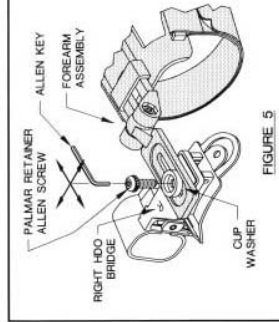
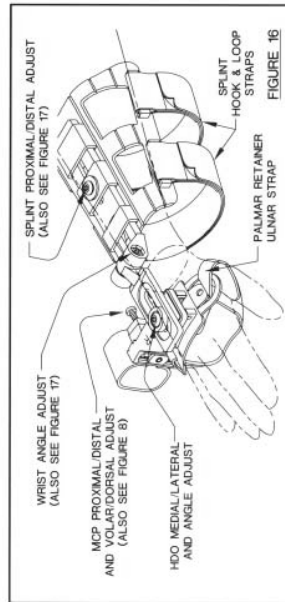

FIGURE 5
FIGURE 16
- 1 Position patient's hand into splint and secure with hook and loop straps see **Figure 16**.
radial styloid and retighten see **Figures 16 & 17**.
- 4 To adjust wrist angle, loosen allen screw at wrist axis, position at desired angle and retighten, see **Figures 16 & 17**.
- 5 Align MCP joint/drive axis of HDO with V digit MCP by loosening allen screw on HDO clamp and sliding HDO proximal/distal and volarly/ dorsally see **Figure 8 page 8 & Figure 16**.
- 6 HDO can be further aligned by loosening allen screw on HDO bridge and positioning medial/lateral or angling to hand see **Figure 5 page 7 & Figure 16**.